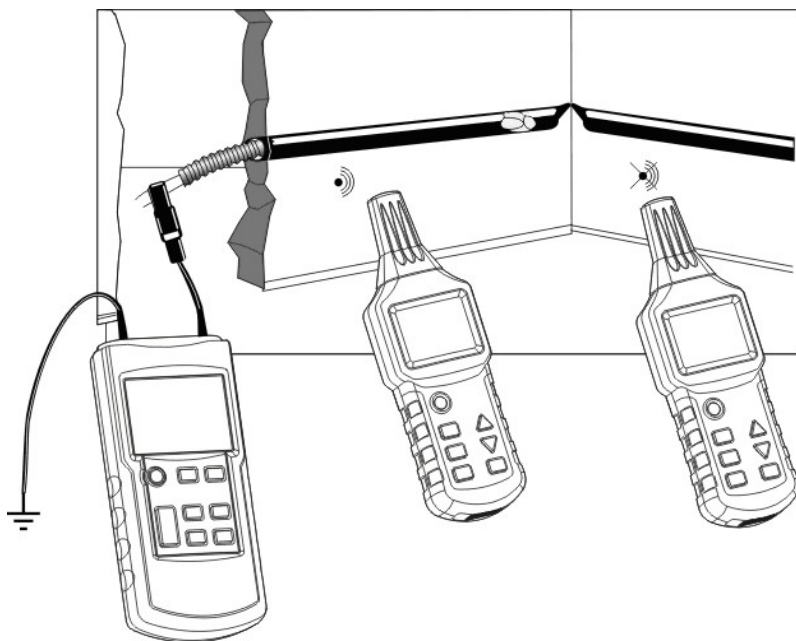

Fig. 14
- The transmitter is connected to a metallic helical tube (flexible metallic tube or pipe) and to an auxiliary ground as shown in Fig. 14.